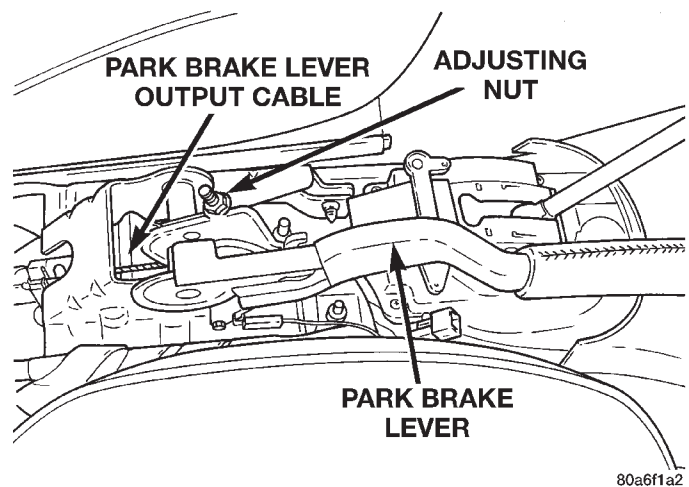

Fig. 150 Park Brake Lever Output Cable Adjustment Nut
- (7) Lower park brake lever handle.
- (8) Loosen adjusting nut (Fig. 150) on park brake cable output cable. This will take tension off park